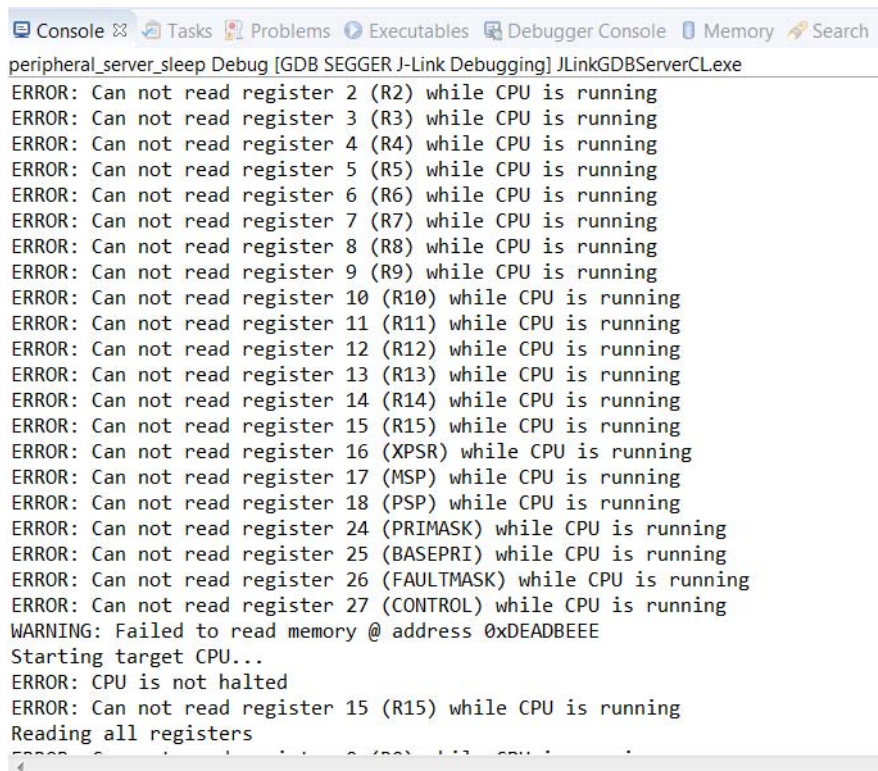

Figure 51. Debug Session Perspective when Debug Connection is Lost
6. Wait until the target enters Deep Sleep Mode. At this point the debug connection is lost; and even when the target is awake, it cannot establish a connection with JTAG. The following output is generated on the console (see Figure 51).